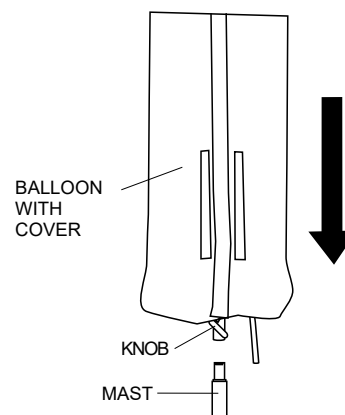

Figure 8. Lamp Installation
1. Insert the lampstand vertically into the mast (Figure 8).